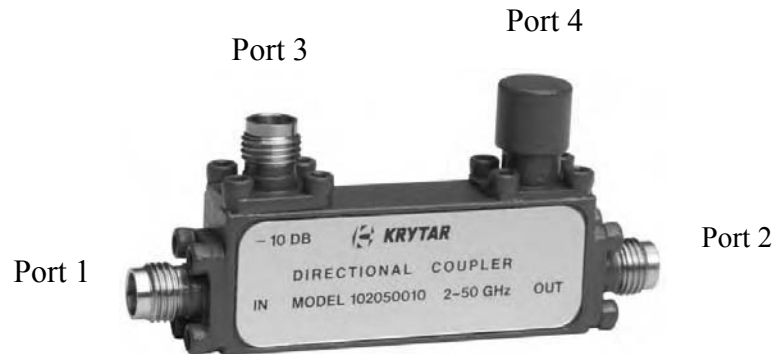

Figure 1
- 1. Directional Coupler.** Components that allow two microwave circuits to be combined into one integrated system in one direction with the two completely isolated from each other in the opposite direction. See Figure 1 above.